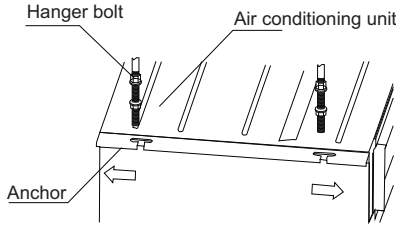

Fig. 27 - Hanger Bolt
2. Install the hanger on the indoor unit (see Fig.27).